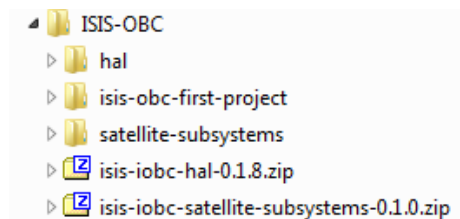

Figure 16: Satellite-subsystems library added to the directory.
1. First the new library is extracted to the directory that also includes the project. The directory is shown in Figure 16.